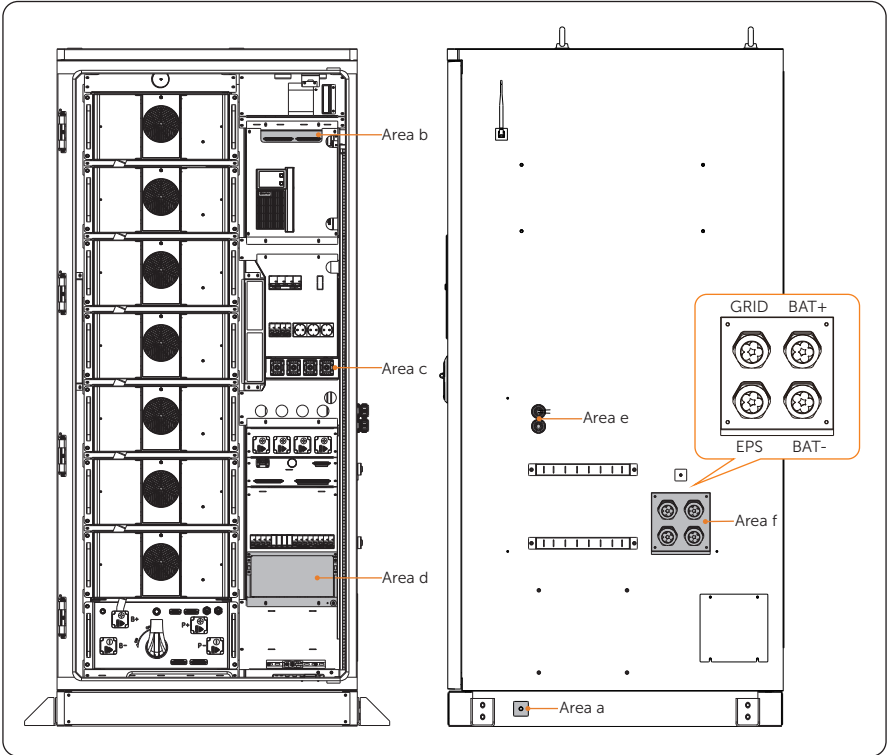

Figure 7-1 Wiring area
- Before wiring, operators are required to learn which parts need to be conducted wiring. For details, please refer to Figure 7-1.
The Grid and EPS cables of the inverter outlet from the battery cabinet from the Grid and EPS port of **part f** in “Figure 7-1 Wiring area”, please strictly follow the steps below.